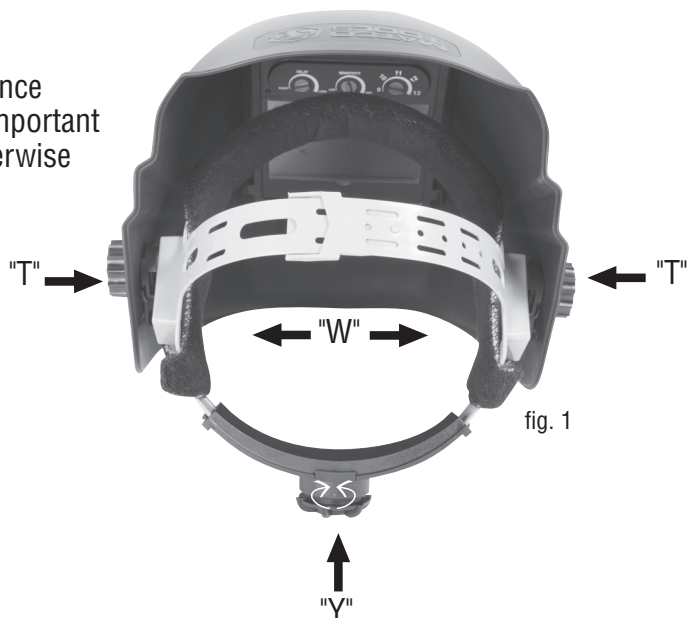

fig. 1
The overall circumference of the headband can be made larger or smaller by rotating the knob on the back of the headband. (See adjustment "Y" in fig. 1) This can be done while wearing the helmet and allows just the right tension to be set to keep the helmet firmly on the head without it being too tight.
- If the headband is riding too high or too low on your head, adjust the strap which passes over the top of your head. To do this, release the end of the band by pushing the locking pin out of the hole in the band. Slide the two portions of the band to a greater or lesser width as required and push the locking pin through the nearest hole (See adjustment "W" in fig. 1)
Step 1: Undo the block nut (See "T" in fig. 1) to adjust the distance between the helmet and your face in the down position. It is important that your eyes are each the same distance from the lens. Otherwise the darkening effect may appear uneven.